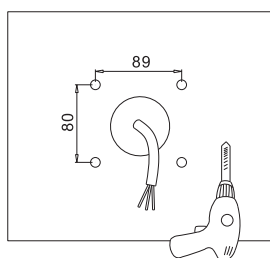

Figure 3-1
1.Cut holes on the wall according to locating plate.(Figure 3-1)